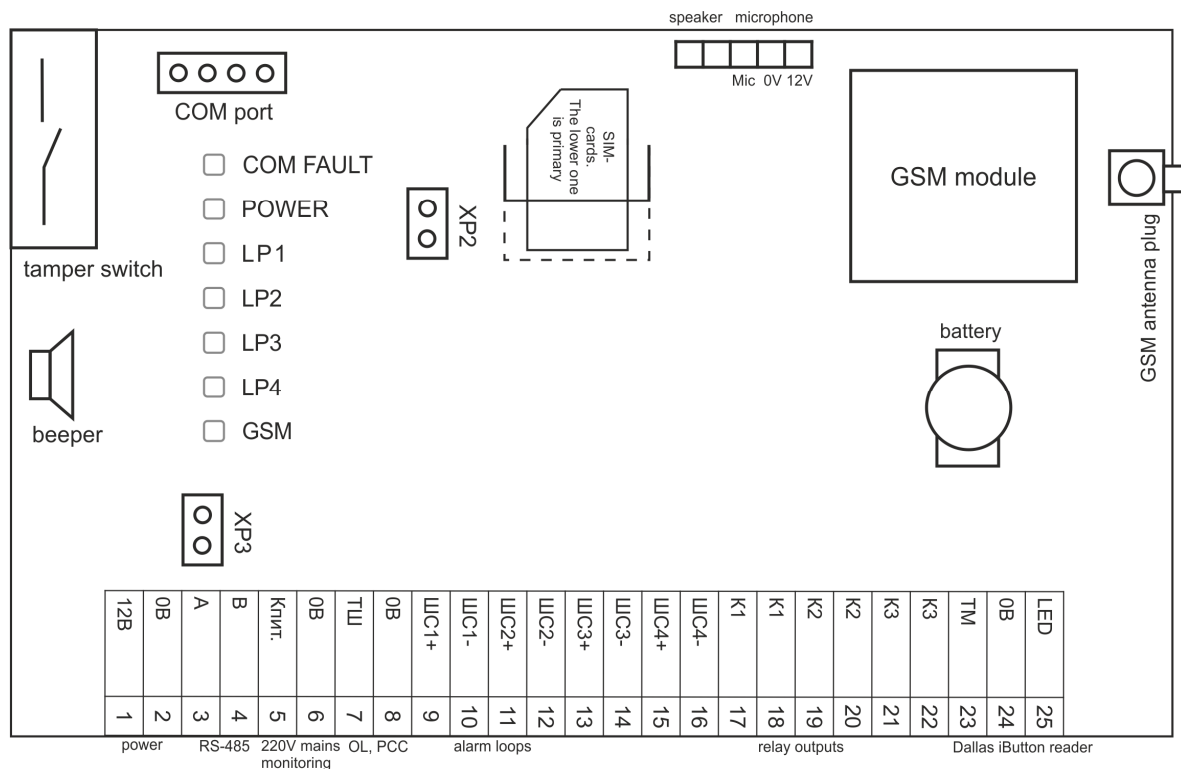

Figure 1. UO-4S Layout
- The XP2 jumper (see Figure 1) must be removed (open) for the Master mode. For all other modes (Standalone, Slave 1, Slave 2) the jumper must be put on (closed).